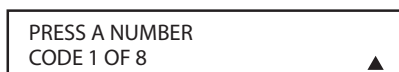

Figure 126.
8. The next step is important, as it determines which codes will operate the source device or display. Point the KP21R remote at the device being programmed and, following the instructions shown in the remote's LCD **Information Display**, press and release the **Alphanumeric Keys** shown on the menu screen (**Figure 126**) one at a time, starting with the "1" button. After you press the "1" **Button**, the remote's LCD screen will briefly go blank as the code is being transmitted, but you will see the "transmit" icon in the upper right corner of the display to serve as confirmation that the remote is sending out commands.